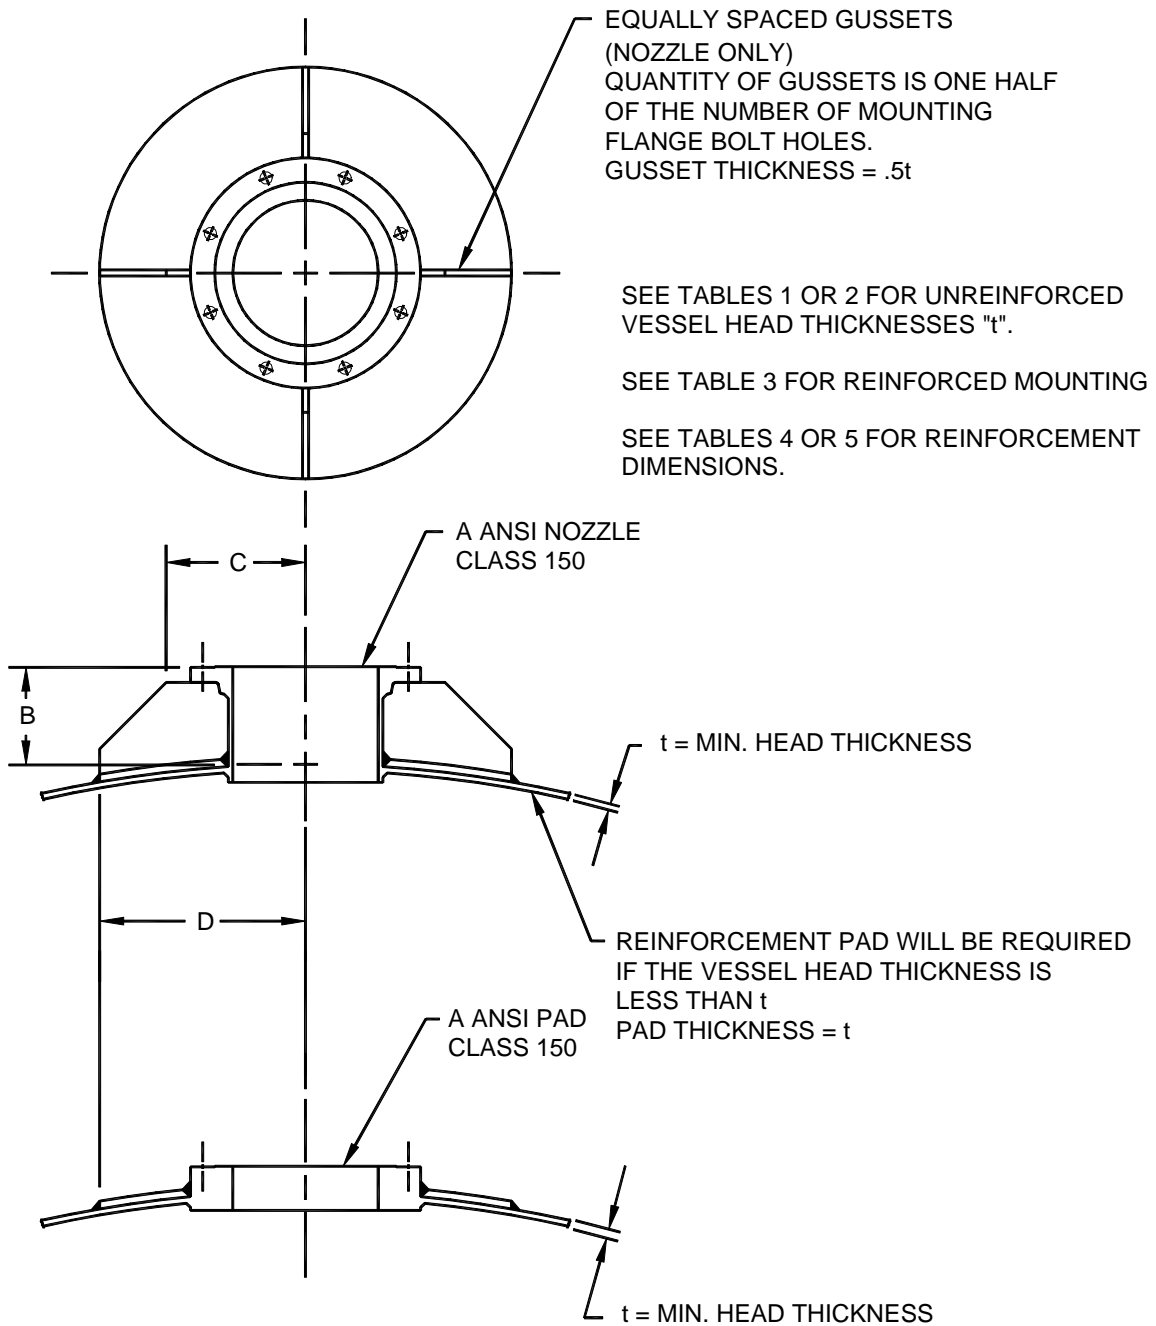

Figure 2: 50DTNS, 50DTNC, 50DTN Mounting, Nozzle/Pad
Figure 2: Models 50DTNS, 50DTNC, 50DTN Mounting, Nozzle/Pad .....	6
- If reinforcement is applicable, refer to *Tables 4 and 5, below and Figure 2, page 6* for proper reinforcement dimensions.